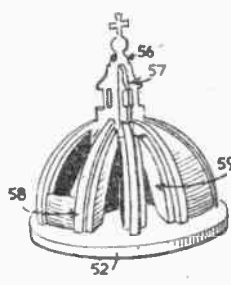

Fig. 5—Dome framework
draw a circle with  $1\frac{1}{8}$  in. diameter on the part (52). Glue to this circle the parts so they come to the edge of the pencil mark provided. This pencil circle also indicates the outer position of the other four rib pieces you see in Fig. 5. These are the diagonal pieces (58) with the rib (59) on each side. Notice that the shorter length of the right angle ( $1\frac{1}{8}$  in.) is glued to the base of the dome, the outer edge in line with the circle marked in pencil. Cut the segments of the shaped dome itself (60) in card, and glue along the projecting ribs.